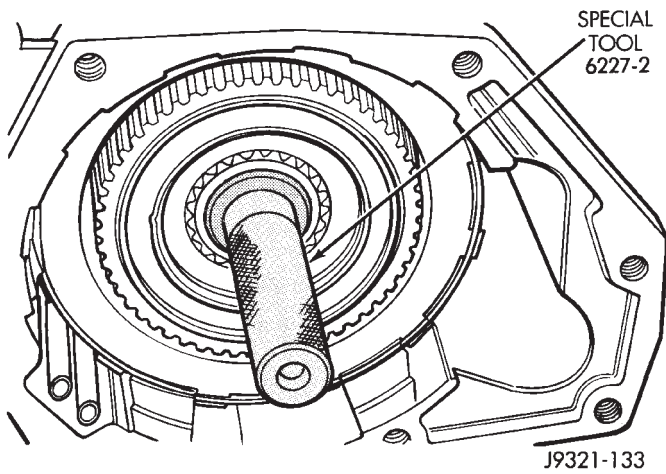

Fig. 4 Overdrive Spline Alignment Tool Installation
- (a) If overdrive unit does not require service, insert Alignment Tool 6227-2 in overdrive unit overrunning clutch and planetary gear to maintain spline alignment (Fig. 4). **If clutch and gear splines rotate out of alignment, overdrive unit will have to be disassembled in order to realign splines.**